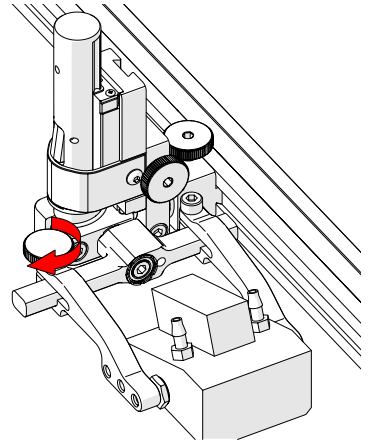

Fig. 117 - Tighten arm knob
6. Tighten the probe holder arm adjustment knob (Fig. 117).